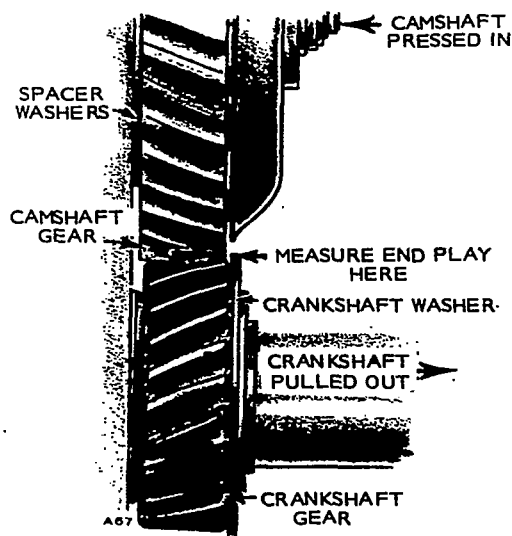

FIGURE 82. CAMSHAFT END PLAY
1. Install key and press camshaft gear on its shaft, Figure 82. Mount governor components.